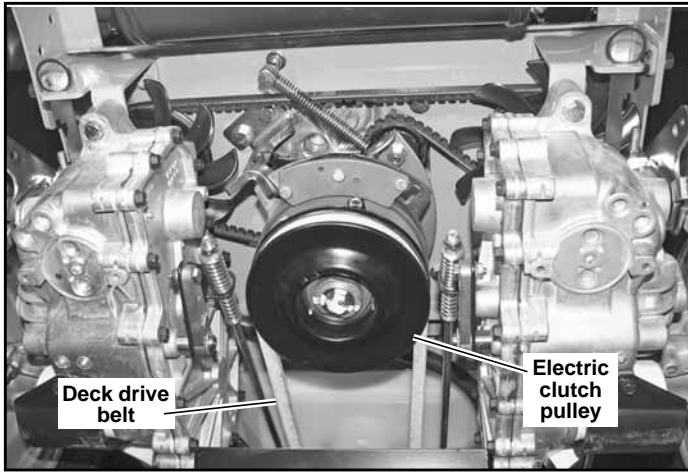

Figure 6-11
6. Remove the deck drive belt from the electric clutch pulley located on the engine shaft. Figure 6-11
7. Route the new deck drive belt around the clutch pulley, spindle pulleys and stationary idler pulley. Make certain the belt is routed properly. Figure 6-8 & Figure 6-11